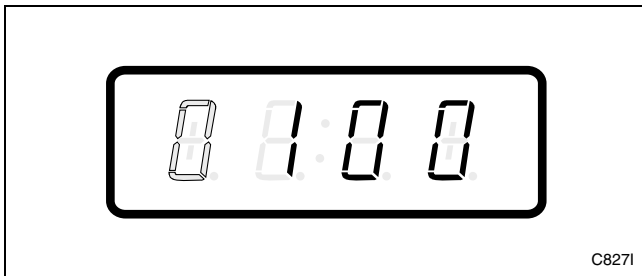

Figure 30
6. Press the START (enter) keypad to enter the fifth digit and display remaining four digits. The active digit will flash one second on and one second off. Refer to *Figure 30*.